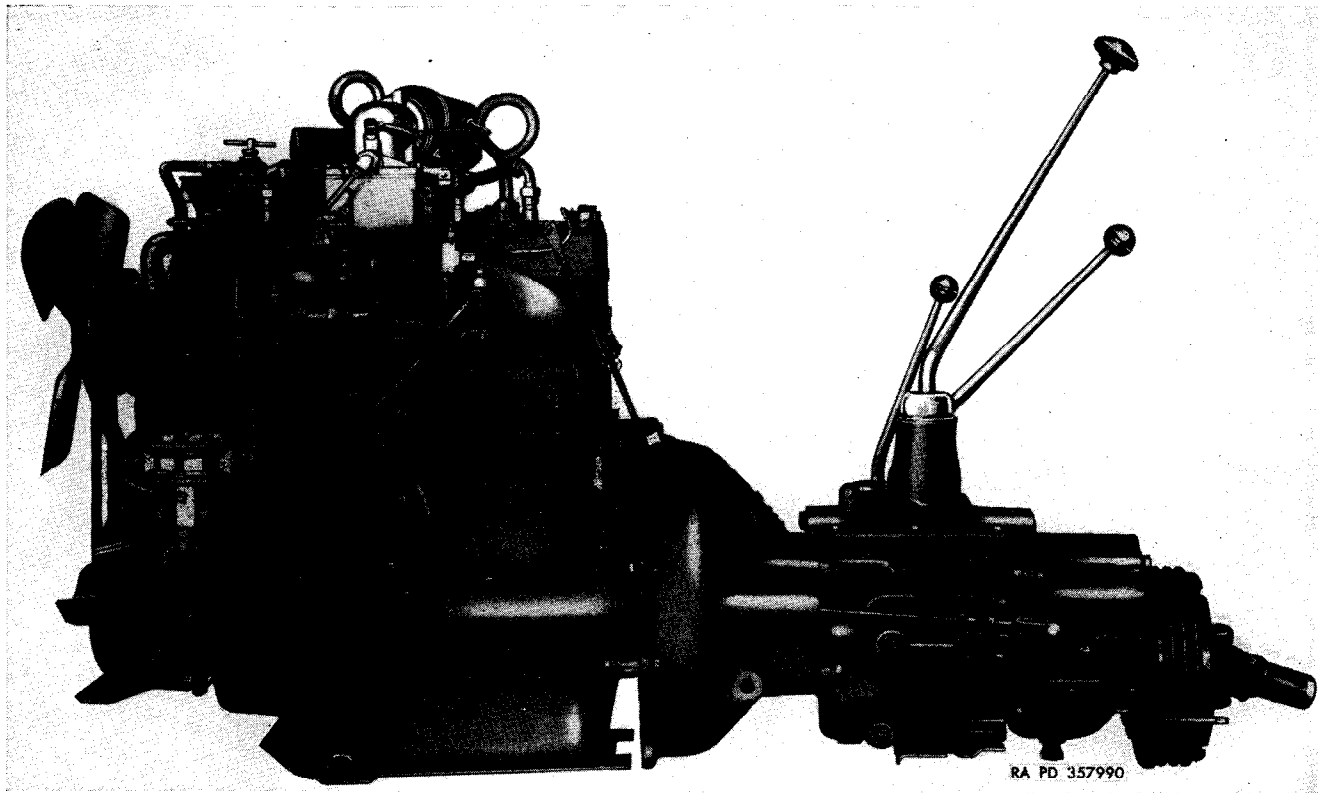

Figure 1. Left side view of power plant.
a. The engine described in this manual is a Willys-Overland 4-cylinder, L-head gasoline unit (fig. 1, 2, and 3) with a counter-balanced crankshaft. The camshaft is driven off the crankshaft through gears (figs. 37 and 39). The oil pump (fig. 64) is located externally on the left side of the engine and is driven by a gear cut integrally on the camshaft. The "front" or timing-gear end of the engine will be referred to as the front end. The "rear" or flywheel end of the engine will be referred to as the rear end. The terms "right" and "left," as used with reference to the engine, are as viewed from the rear end and looking toward the front end. Cylinders are numbered 1 through 4 starting at the front end. The distributor is driven directly from the oil pump drive gear. Reference is made to chapter 4, this manual, for complete information and to operator's manual, TM 9-804, for tabular data.
The Willys-Overland Model MC engine is a conventional design four-cylinder L-head-type unit (figs. 1, 2, and 3). The crankshaft (fig. 43) is mounted on three replaceable shell-type bearings and is counterbalanced to reduce vibration. Extra long connecting rods with replaceable shell-type bearings and three-ring aluminum pistons are used. The camshaft rotates on four bearings, the rear three being reamed openings in the crankcase and the front a replaceable, babbitt-lined steel bushing. The camshaft is driven by helical cut timing gears (fig. 37).